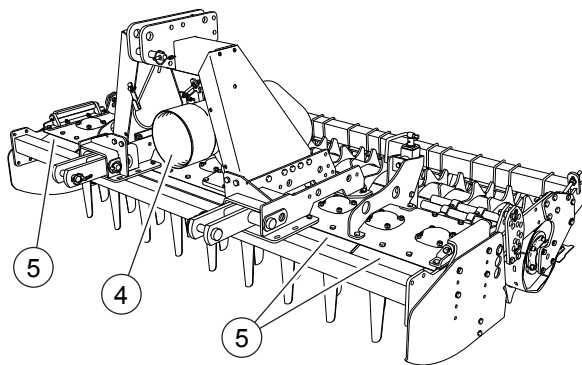

FIG. 16
- PTO guard tractor side (4, “Fig. 16”).
- Protective plate for preventing access to the blades (5, “Fig. 16”).